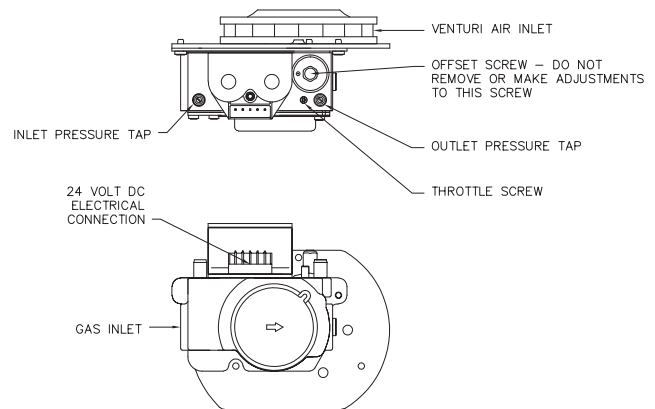
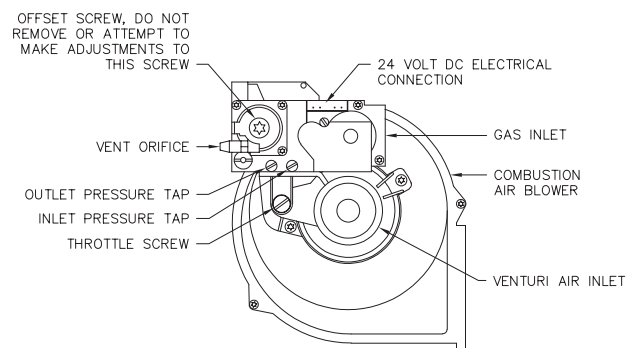

Figure 4.4: Gas Valve/Venturi PI-T50/PI-T80
Figure 4.5: Gas Valve/Venturi PI-80, PI-140, PI-199
- c. Using a flat screwdriver, turn the screw inside the inlet pressure tap fitting (see figure 4.4 and 4.5) one turn counterclockwise.
1. Figure 4.4 shows an illustration of the gas valve/venturi assembly for the Pinnacle PI-T50 and PI-T80 and Figure 4.5 shows an illustration of the gas valve/venturi assembly for the PI-80, PI-140, and PI-199.
- a. The throttle screw on either of these valves should not be adjusted without a means to measure carbon monoxide (CO) and carbon dioxide (CO₂) emissions.